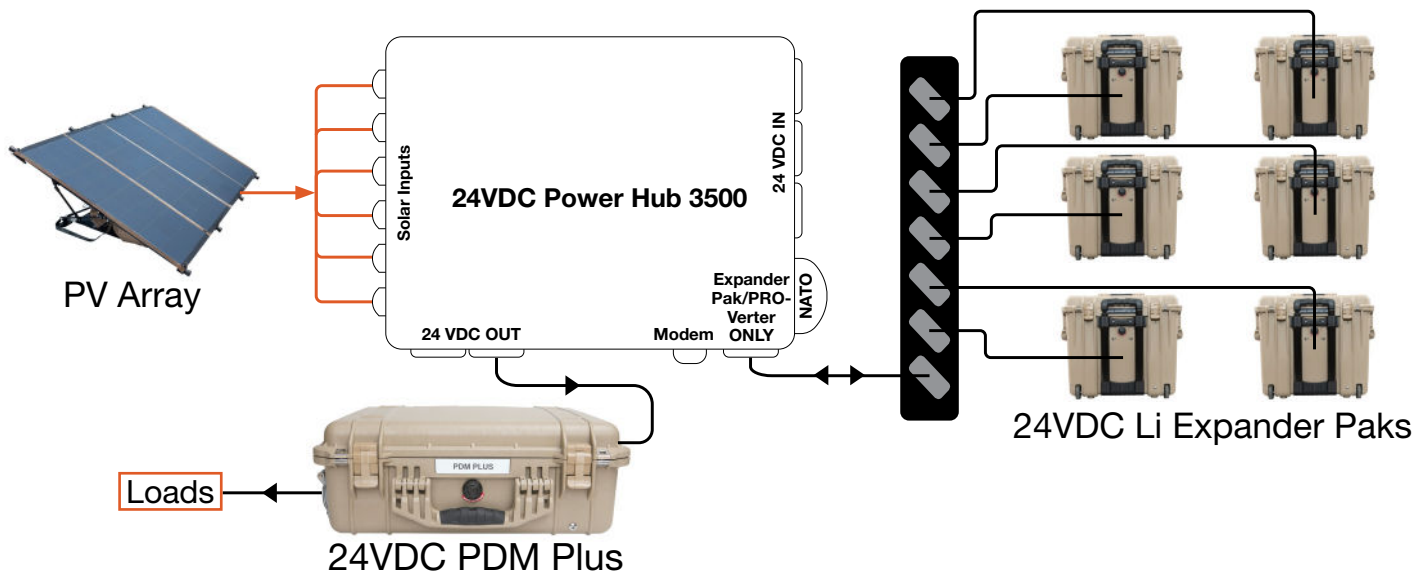

Figure 20. Power Hub as the primary power management device
- A. May be connected to Power Distribution Modules (PDMs; Figure 20) or 24 VDC loads.
The voltage and current flowing out of the Power Hub (reported in the Battery Monitor submenu) are accurate in any System configuration. The SOC reported by the battery monitor is accurate when both batteries and loads are connected directly to the Power Hub as shown in Figure 20.